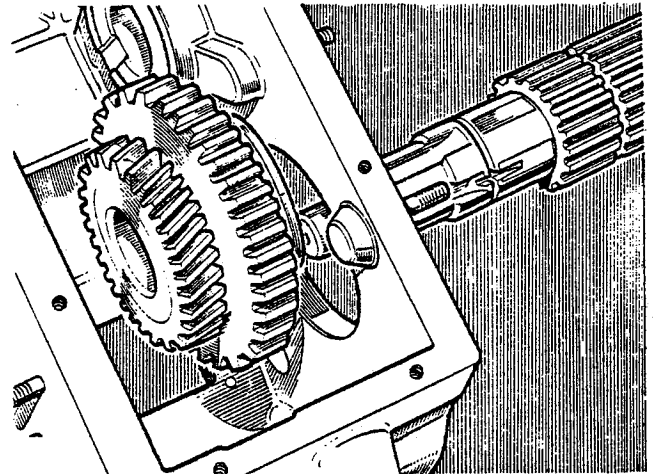

Fig. 29
Mesh the high- and low-speed gears and install them into the casing, locating them on the output shaft as it is slid into position as shown in (Fig. 29).
3. Figure 23, Figure 33 and Figure 29.